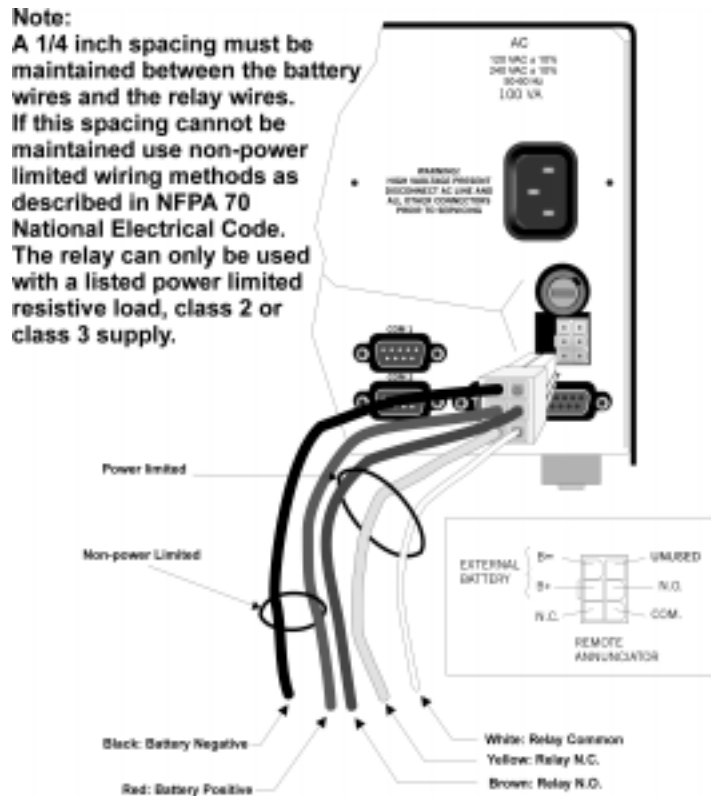

Figure 3-8 9500 Remote Alert Output/External Backup Battery Connection
1. Plug the Relay wiring harness onto the connector on the back of the 9500 receiver. (See Figure 3-8.)